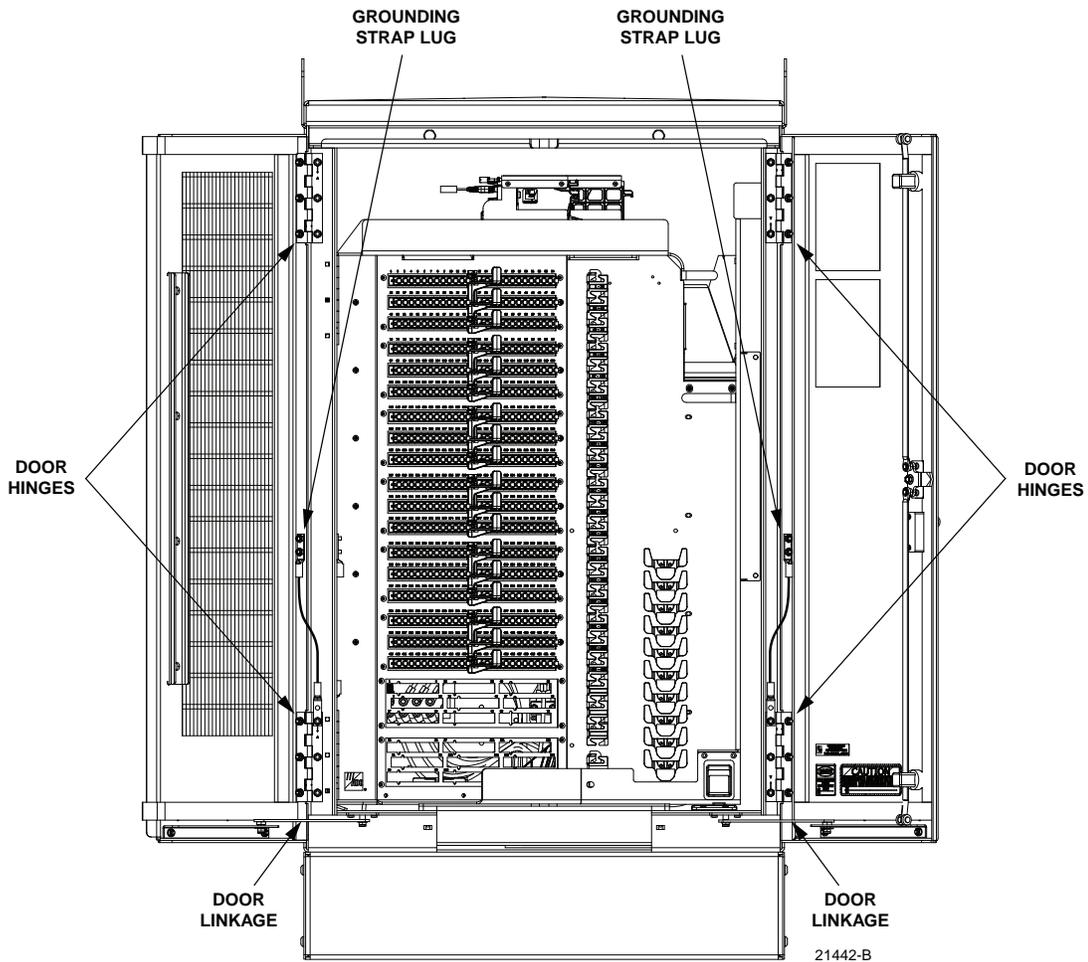

Figure 37. Door Replacement
1. Open both cabinet doors and lock them in the open position as shown in Figure 37.